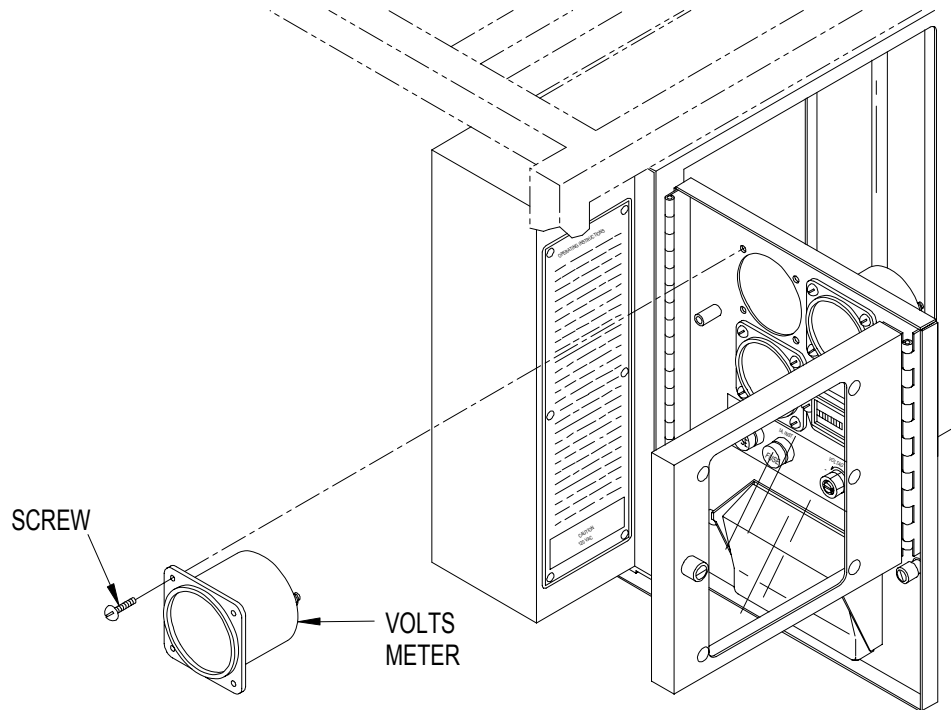

Figure 4-24. VOLTS Meter
- (1) Shut down generator set.
- (2) Release instrument panel by turning fastener, open instrument panel slowly.
- (3) Remove gauge protective cover. Then tag and disconnect VOLTS meter (Figure 4-24) electrical leads.
- (4) Release instrument cover by turning fastener, open instrument cover.
- (1) Insert VOLTS meter (Figure 4-24) into instrument panel.
- (2) Apply locking compound (Item 6, Appendix E) to screws.
- (3) Install screws.
- (4) Connect electrical leads and remove tags. Then install gauge protective cover.
- (5) Close and secure instrument panel and instrument cover.